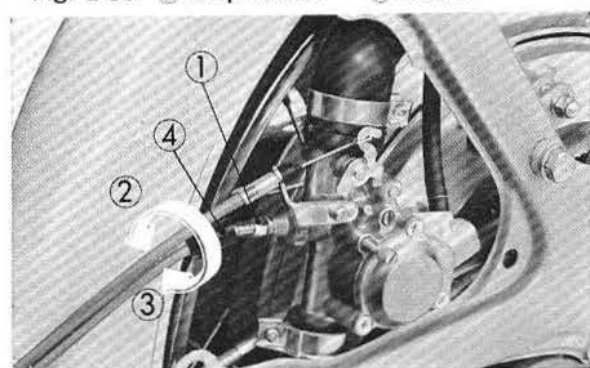

Fig. 1-31 ① Adjusting bolt ② To decrease ③ To increase ④ Cap
- ② When excessive play exists in the rotating direction, adjust the throttle cable. Make the adjustment with the adjusting bolt. After the adjustment, reinstall the cap securely. (Fig. 1-31)